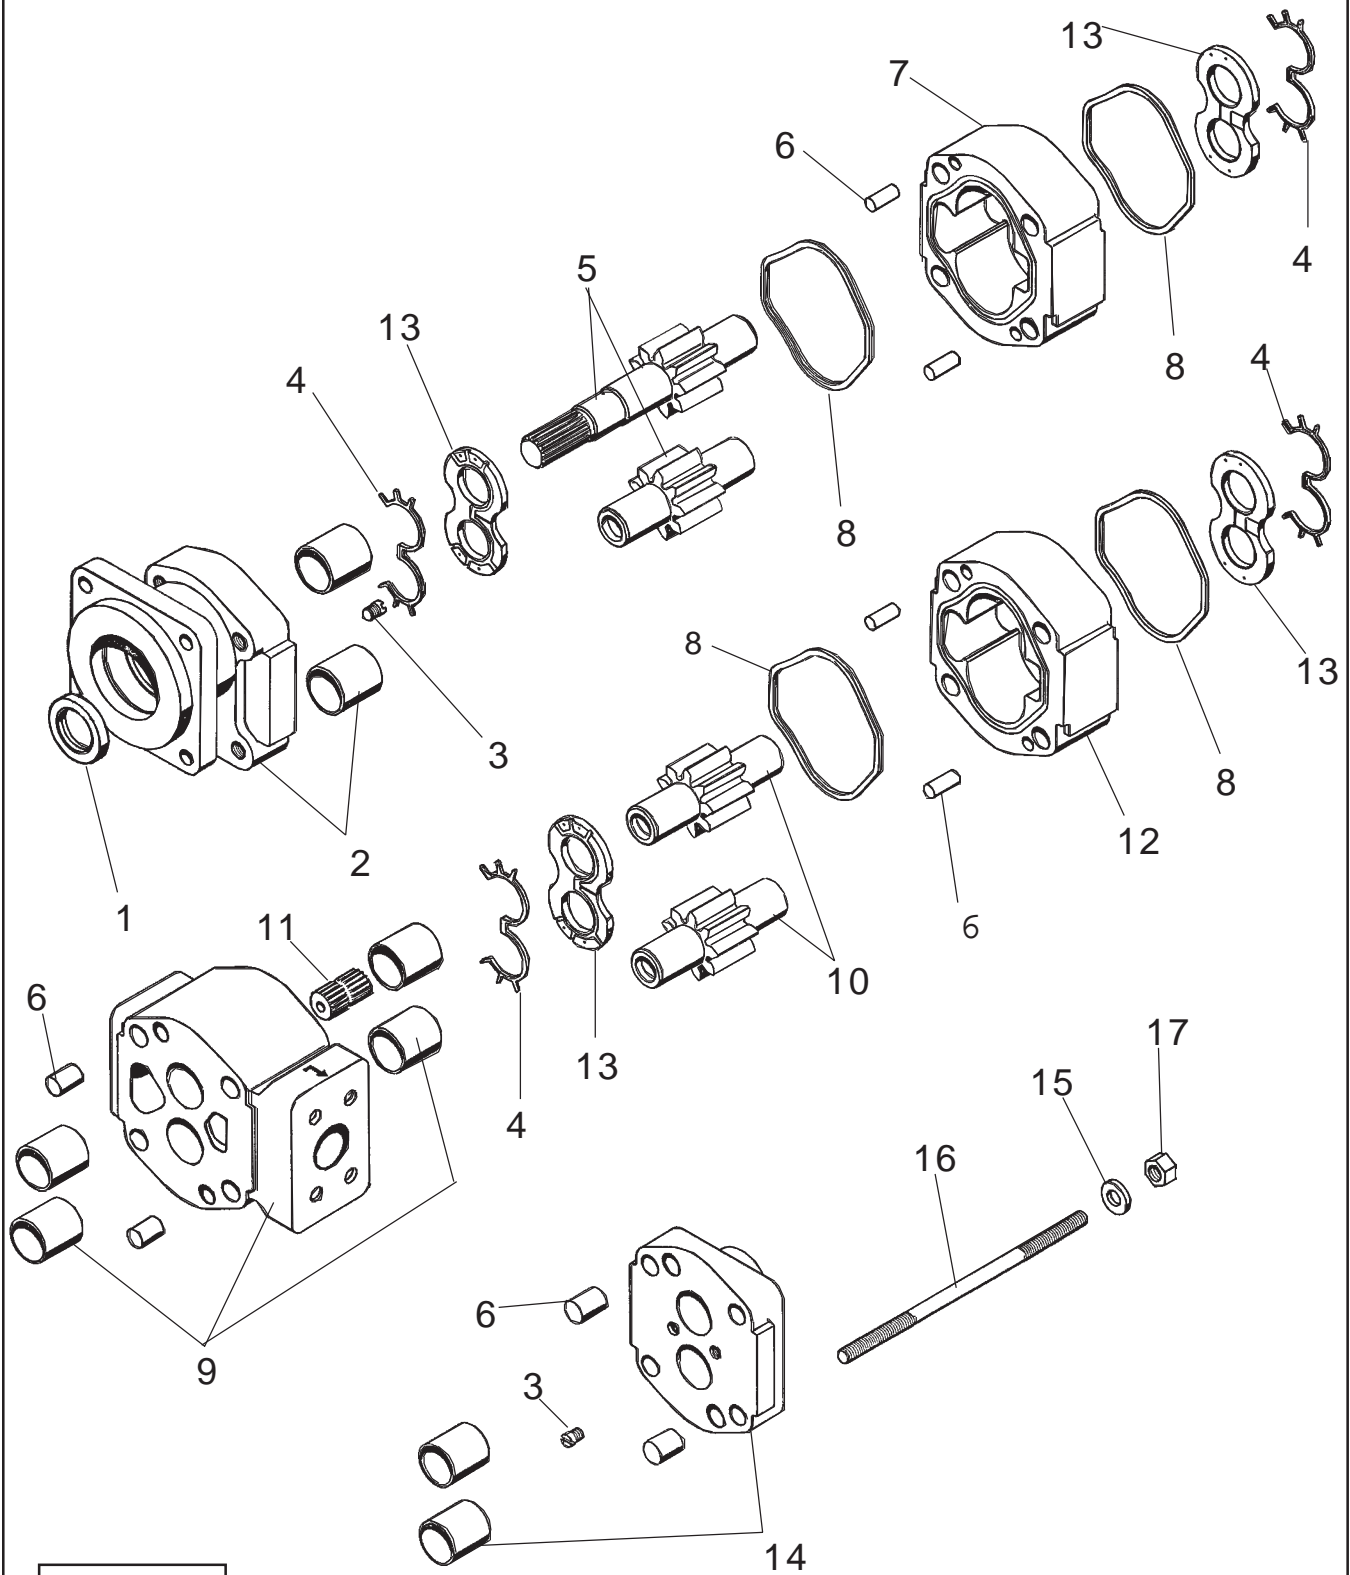

Figure 18
13. Important! Look at the top of the Pump Mounting Flange you will see two threaded passage ways, one will have a plug in it, the other one will not (See Figure 18). Mark these hole so that you will know which had threaded plug and which did not. **DO NOT REMOVE THE PLUG** from housing unless you are reversing the Rotation of the Pump from front mounted to a rear mounted. If you are reversing rotation of Pump remove the threaded Plug from the Pump Mounting Flange. Clean the area around the hole where the plug came out, make sure that there are no metal shavings or splinters that came off of threaded plug or hole left on Pump Mounting Flange Housing. Carefully remove any burrs on Housing where Plug came out.
5. Coat the Drive Gear input Shaft with light coat of clean Hydraulic Oil; Slide the Shaft down into the Gear Housing, Guiding it through the Thrust Plate, Do not touch Thrust plate with Shaft Splines, Guide Splines through Thrust Plate. Insert Gear Shaft till it protrudes through Shaft Bushing, Shaft Lip Seal and the bottom of Pump Mounting Flange using a gentle Push and twisting motion (See Figure 18), Use caution not to wobble Shaft or push on shaft and damage the Thrust Plate. Coat Idler gear with light coat of Clean Hydraulic Oil and drop it into Gear Housing using caution as it goes through the Thrust Plate. Squirt Clean Hydraulic Oil into cavity around and all over Gears.